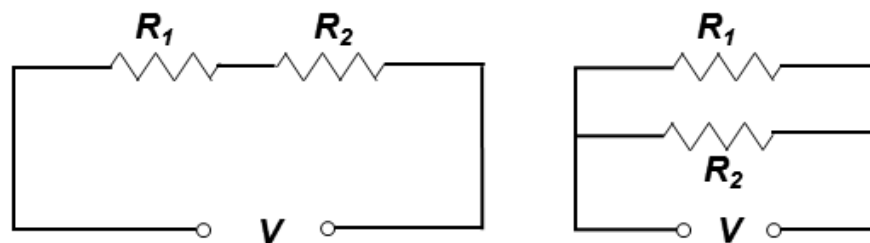

Figure 9. Schematics of (left) series and (right) parallel circuits
3. Setup the circuits in series and parallel on breadboard, as indicated in figure 9.